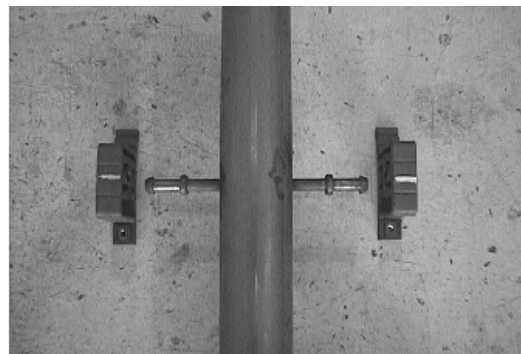

Figure 4
6. Once system is removed, remove rubber hangers as shown in figure 4 from the front pipe assembly by unbolting them from the support bracket.